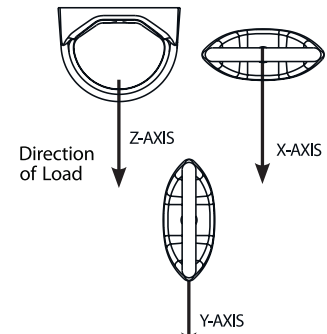

Fig. 4
Steel Point Anchor (DXFP844001) (Fig.4)
- The Anchor can be fixed so that the load impact is in any of the directions shown in the Fig.4.
- The Steel Girder Anchor (Fig.4) may be attached to the structure by pulling on the spring loaded trigger component.